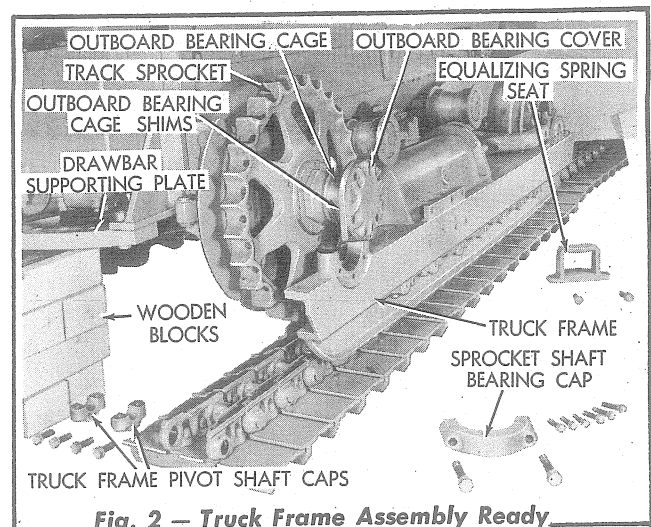

Fig. 2 — Truck Frame Assembly Ready for Removal
2. Remove the truck frame pivot shaft caps (Fig. 2) located directly under the steering clutch and final drive housing. Remove the track sprocket guard. Remove the three capscrews attaching the outboard bearing cover to the sprocket shaft bearing cap, then remove the two capscrews attaching the sprocket shaft bearing cap to the truck frame and remove the cap. Remove the capscrews attaching the equalizing spring seat to the truck frame.
- a. With the track uncoupled and the tractor raised off the truck frame as shown in Fig. 2; the pivot shaft may be removed from the truck frame. The pivot shaft is a slip fit (.006" to .010" loose) in the bore of the pivot shaft bushing, therefore, no special tools are necessary for removal of the pivot shaft.